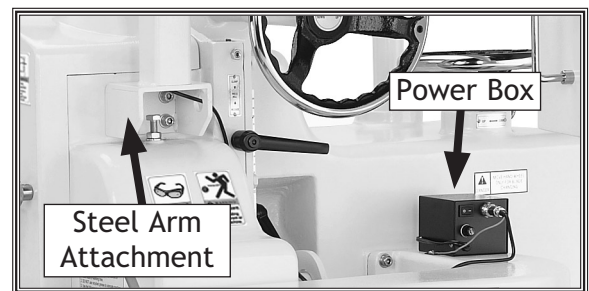

Figure 18. Location of steel arm attachment and power box.
3. Secure the steel arm to the headstock in the location referenced in **Figure 18**, with the (4) M8-1.25 x 25 cap screws, flat washers, and lock washers.